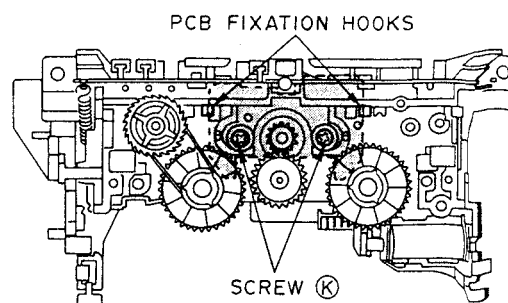

Fig. 3-12
- 2) Remove the PCB retaining screw ③.
- 3) Release the two hooks which retain the REEL PULSE DETECTION PCB and remove the PCB. (Refer to Fig.3-12)
- 4) Remove the springs of the assist lever (A) and (B).
- 5) Extract the assist lever (A) and (B).
- 6) Remove the reel motor retaining screws ⑤ and remove the REEL MOTOR.